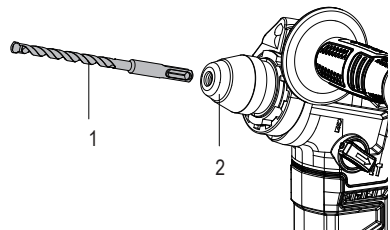

Fig.6
This tool exclusively uses SDS-Plus style drill bits (1). To install, insert the SDS-Plus drill bit (1) into the chuck (2) until it engages. Test that the drill bit (1) is securely held in place by trying to pull it directly out of the chuck (2). To remove, pull the chuck (2) collar back toward the body of the tool and remove the drill bit (1) (Fig.6).